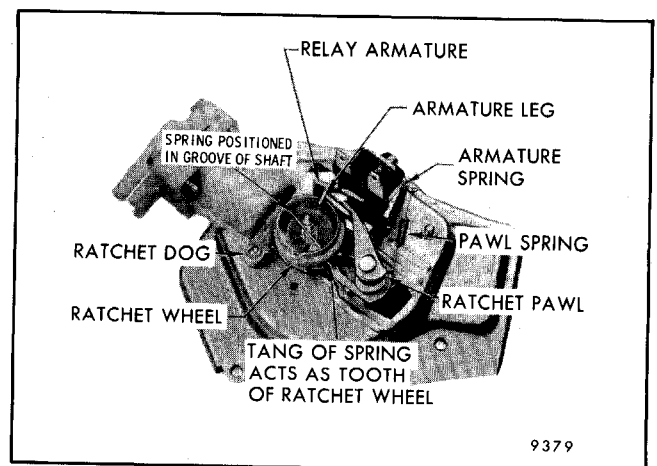

Fig. 2-126-Pump Mechanism
The programming section of the pump mechanism consists of a relay, ratchet pawl, ratchet wheel, and ratchet wheel dog (Fig. 2-126).
1. A leg on the relay armature rides up a ramp located on the outer surface of the ratchet wheel. When the leg reaches the top of the ramp, it moves over the top edge of the ratchet wheel. This action allows the ratchet wheel pawl to re-enter the armature opening preventing further rotation of the ratchet wheel until the next time the relay coil is energized from the washer button. (Refer to Fig. 2-126 for position of armature leg while pump is idling.)